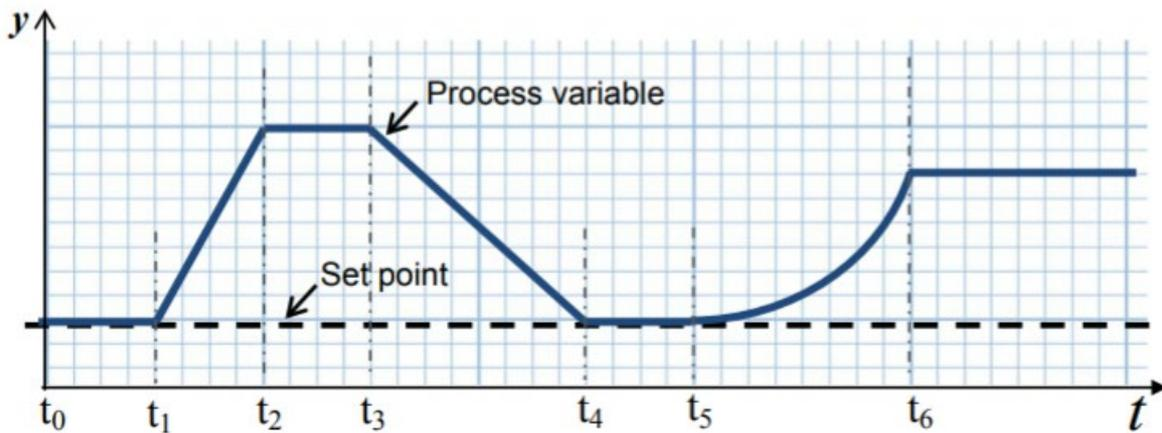

Figure Q2. Signal input to controller (open loop).
- c) Draw the open loop responses expected of a P (proportional) controller, D (derivative) controller and an I (integral) controller separately for the situation shown in Figure Q2. Assume a reverse-acting controller. Consider the variation of process variable from t_5 to t_6 to be quadratic. A qualitative diagram will suffice, however, indicate the magnitude of response and slopes where possible. [10 marks]